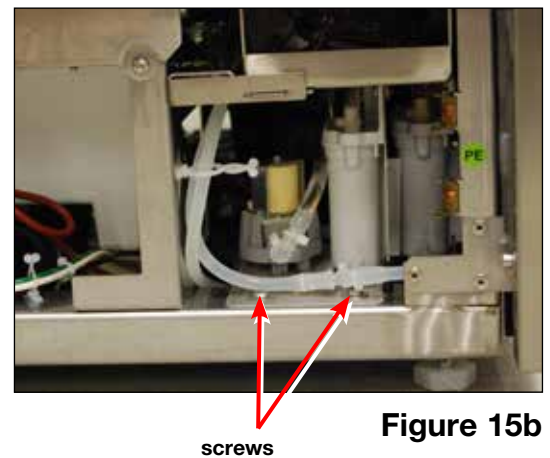

Figure 15b
5. Remove 2 screws and pull out bracket. (Figure 15b)